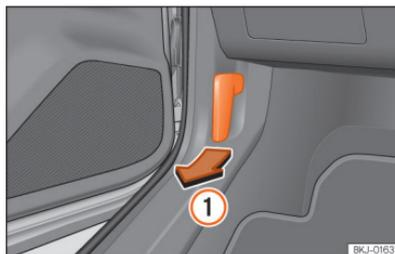

Fig. 178 Release lever in the driver's footwell area.
- Open the door and pull the lever that is underneath the instrument panel »»» Fig. 178 ①.